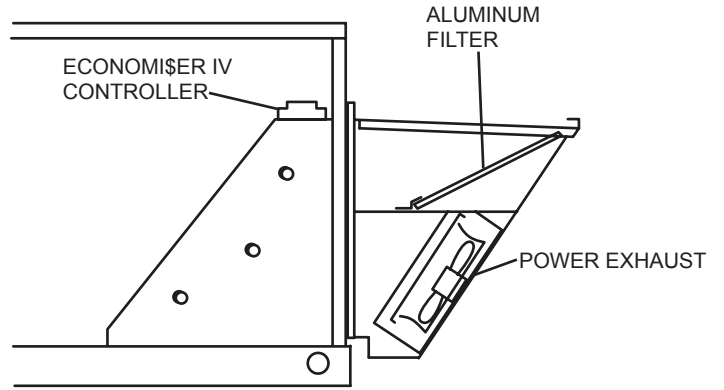

Figure 12 - Power Exhaust Installed on Unit
4. Lift power exhaust and install over EconoMiSer using the #10 x 3/4 in. long screws provided. Make sure wiring harnesses are properly secured. (See Fig. 12.)